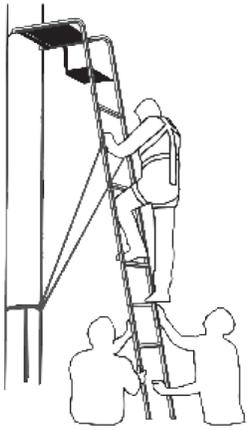

Figure 44
STEP 8: **NOTE:** Never climb a stand which does not have the stabilizer straps properly installed as instructed herein and pulled tight. With the stabilizer straps installed and secured as outlined herein, with the assistance of two (2) other adults as shown in Figure 44 to steady the treestand, you may climb the treestand to install the seat assembly ratchet strap. Maintain three (3) points of contact when climbing. Never lean backwards while climbing as this could cause the treestand to separate from the tree. Make certain to remain in the center of the treestand until the platform/tree blade ratchet strap has been installed.